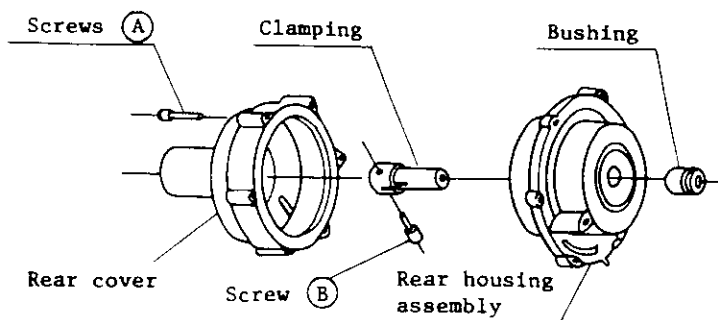
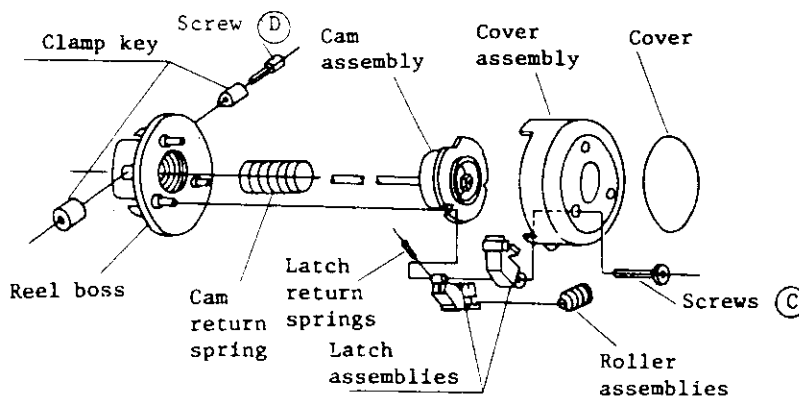
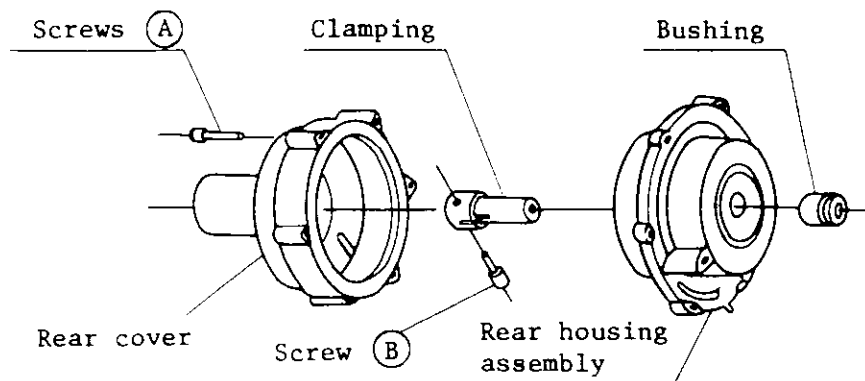
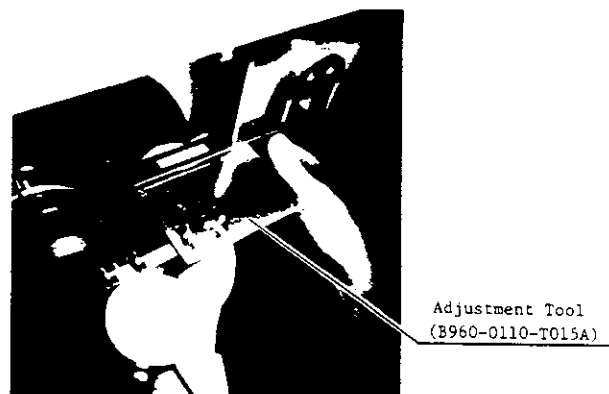

Figure L.19 Cover and reel boss assembly
Figure L.20 Rear housing and rear cover assembly
Figure L.23 Adjustment of reel boss position
Figure L.24 Rear of file reel with stopper screw
- (1) Peel off the adhesive cover shown in Figure L.20.
- (2) Insert the 7.5 mm-thick cam alignment spacer (B960-0110-X085A) between the cover assembly and the cam.
- (3) Remove 6 screws (A) shown in Figure L.19 and remove the rear cover.
- (4) Remove screw (B) shown in Figure L.19 and remove the clamp.
- (5) Remove the rear housing assembly.
- (6) Remove the bushing.
- (7) Hold down the spring-loaded cover assembly while removing 3 screws (C) shown in Figure L.20. Remove the cover assembly.
- (8) Remove the cam assembly and cam return spring shown in Figure L.20.
- (9) Remove the latch assemblies together with the latch return, spring and roller assemblies shown in Figure L.20 and L.22.
- (10) Remove screw (D) shown in Figure L.20, and remove the reel boss from the motor shaft.
- (1) Mount the reel boss to the reel motor shaft using a clamp key, and adjust the reel boss position as follows (see Figure L.23):
- (2) Mount the roller assemblies and latch assemblies to the reel boss pins and the mount latch return springs (Figures L.19 and L.22).
- (3) Mount the cam assembly and cam return spring so that the three notches of the cam assembly are aligned with the pin positions.
- (4) While pressing the cover assembly by hand, install the three screws (C), shown in Figure L.20.
- (5) Insert the cam alignment spacer between the cover assembly and the cam.
- (6) Install the bushing on the reel motor shaft.
- (7) Mount the rear housing assembly so that the bushing is inserted into the bearing of the rear housing assembly. The housing assembly should be oriented so that the stopper screw on the rear side of the file reel (see Figure L.24) can be inserted into the screw hole on the housing.
- (8) Insert the clamp into the rear housing assembly. Install screw (B) shown in Figure L.23.
- (9) Install the rear cover using screws (A).
- (10) Remove the cam alignment spacer.
- (11) Install a new cover shown in Figure L.20.